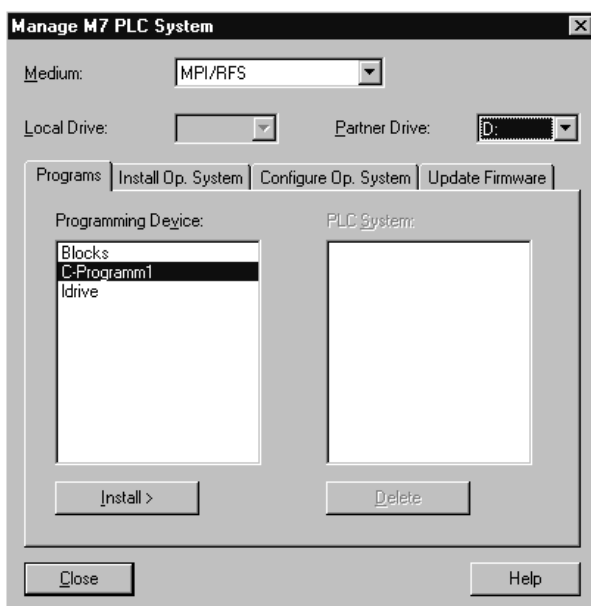

Figure 4-3 “Programs” Tab
4. Make the following selections (see Figure 4-3):